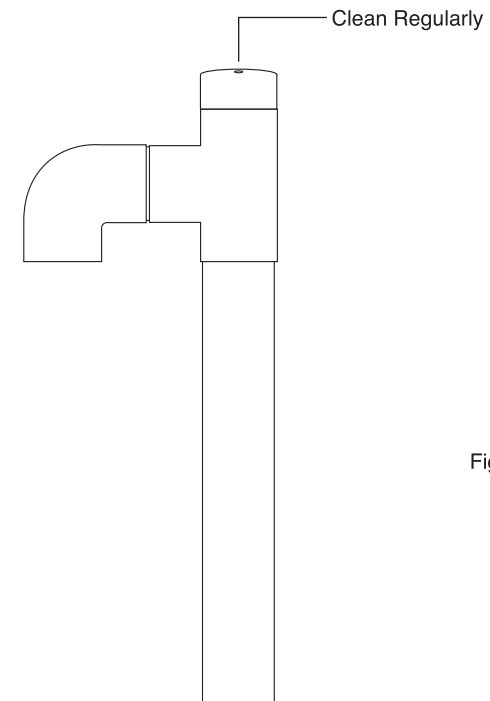

Fig. 3
1. Air intake may be blocked. Remove and rinse in fresh water, salt build up can cause a small blockage (Fig. 3)
2. There is a blockage in the drain pipe. Remove air intake and check pipe for blockage. (Fig. 3)